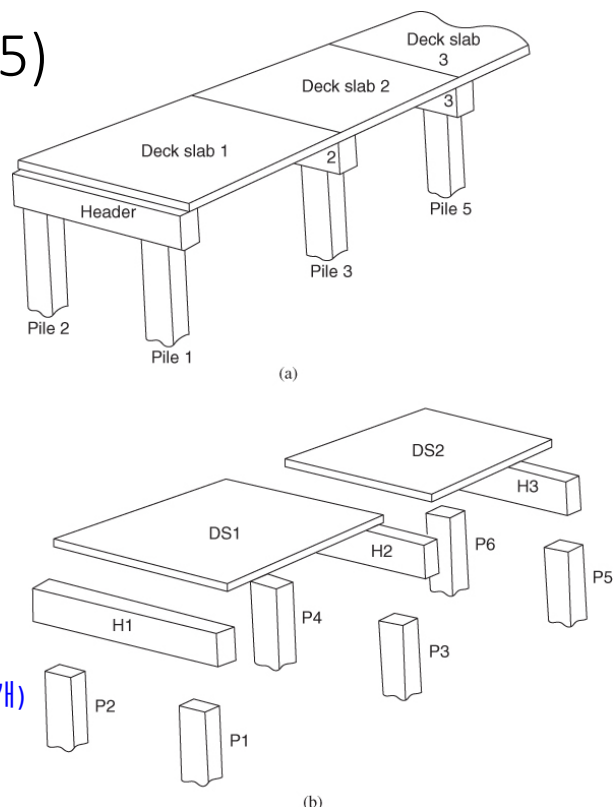
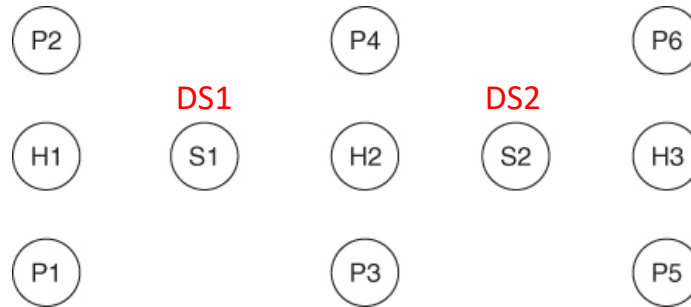

FIGURE 8.5 Simple schematic model (Antill and Woodhead, 1982): (a) schematic view of pier; (b) exploded view of pier
FIGURE 8.6 Conceptual model of pier components
- Figure 8.6 gives a **plan view of the pier components** shown in Figure 8.5.